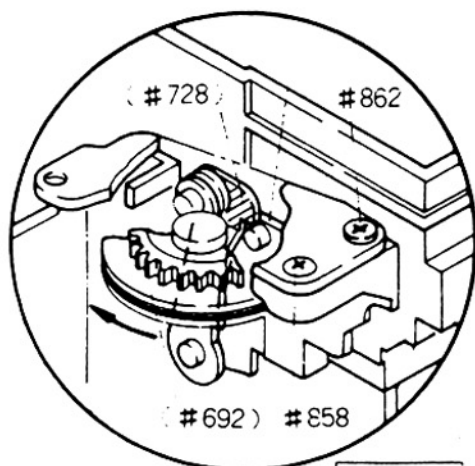

fig. 22-1
(fig. 22-1)
2) Rotate Winding roller (#692) clockwise until it contacts stopper (a part of #55; see fig. 22-1.)
Screw ⊕ #858, ⊕ #862 (fig.22-1)